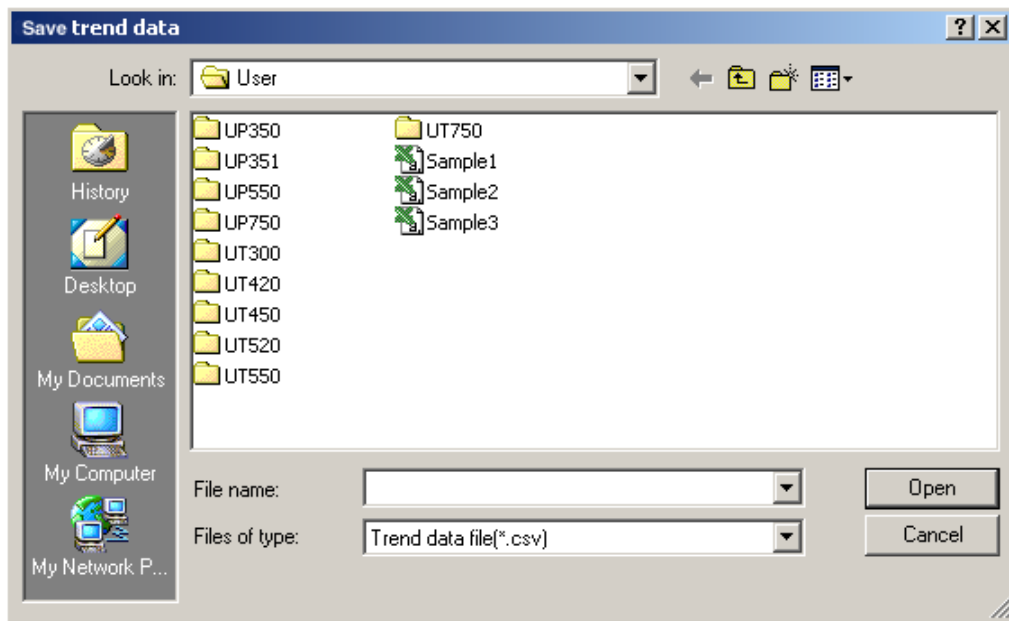
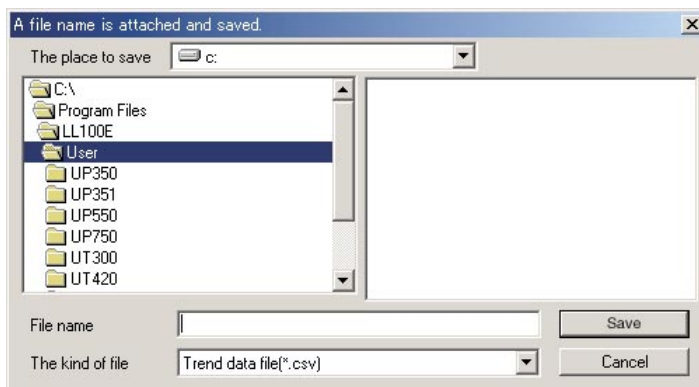

Figure 5.3.1 Save Trend Data Dialog Box while Trend Display is Stopped
Figure 5.3.2 Save Trend Data Dialog Box while Trend Display is Working
- (1) From the toolbar, click the  shortcut, or from the menu bar, choose **File**, and then **Save trend data**.
- (2) The Save Trend Data dialog box (Figure 5.3.1 or Figure 5.3.2) appears. In the **File name** text box, enter a file name then click **Save**.